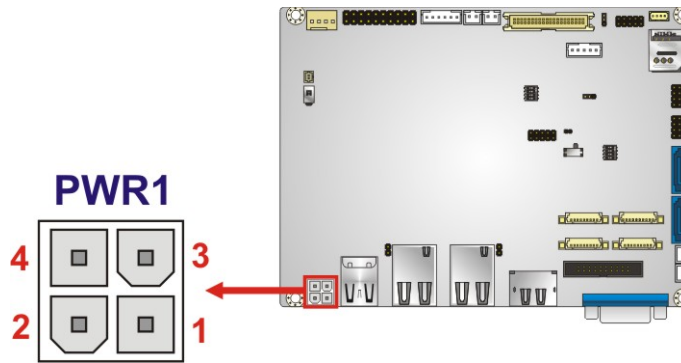

Figure 3-3: +12V DC-IN Power Connector Location
- CN Location:** See **Figure 3-3**